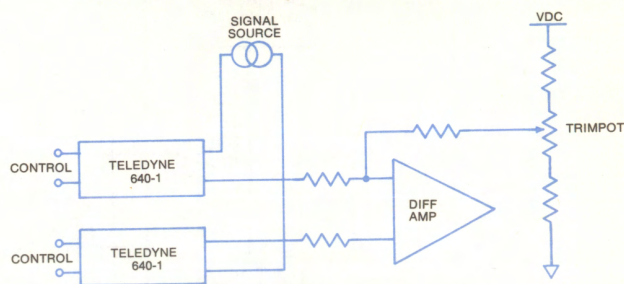

Fig. 2-23 Circuit to null out offset voltage of Teledyne 640-1.
2.6.9 Circuit to Null Out Offset Voltage of Teledyne Serendip® Model 640-1 SSR (Fig. 2-23)